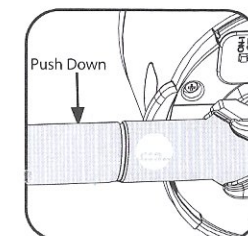

Figure 11
12. Push Down the lever and release to advance the sleeve (repeat until sleeve is tight and no binding/jamming). (Fig. 11)